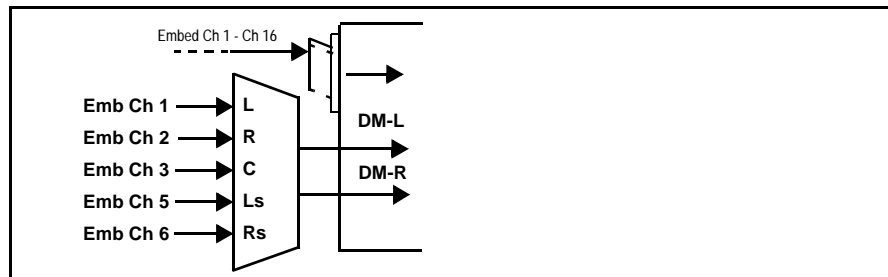

Figure 1-5 Audio Down Mix Functional Block Diagram with Example Sources
(See Figure 1-5.) The Audio Down Mixer function provides for the selection of any five embedded channels serving as Left (L), Right (R), Center (C), Left Surround (Ls), and Right Surround (Rs) individual signals to be multiplexed into stereo pair Down Mix Left (DM-L) and Down Mix Right (DM-R). The resulting stereo pair DM-L and DM-R can in turn be routed to any embedded audio pair as desired (or de-embedded to an AES or analog audio output).